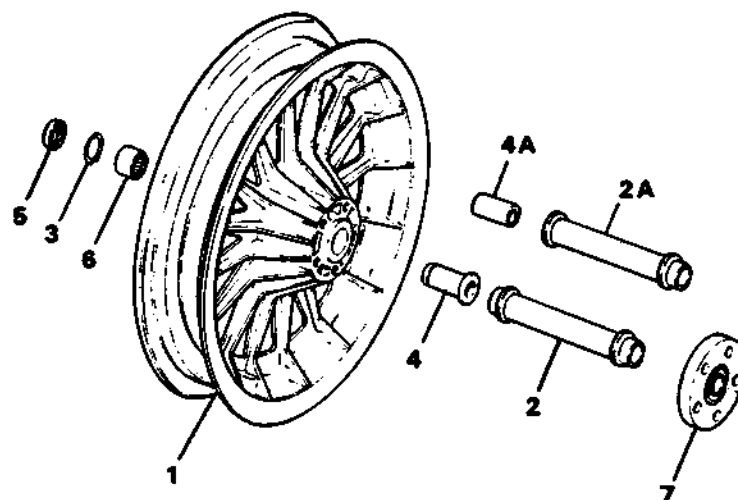

Figure 3. Wheel — Exploded View
See Figure 3. The retaining ring (3) should be discarded since it is not used with the new inner race (4A).
10. See Figure 3. Using moderate thumb pressure, insert the new SPACER (2A), Part No. 43644-81, as far as it will go into the opposite side of the wheel with the flatter end against the inner race (4A). The inner race should project slightly from the wheel hub and seal (5).
11. See Figure 3. Place the new BEARING HOUSING (7), Part No. 43939-79A, on the right side of the wheel.
7. See Figure 3. Remove the inner spacer (2). Press out the bearing (6), inner race (4) and retaining ring (3) as an assembly, from the RIGHT to the LEFT side of the wheel using a 15/16" socket. See Figure 6.